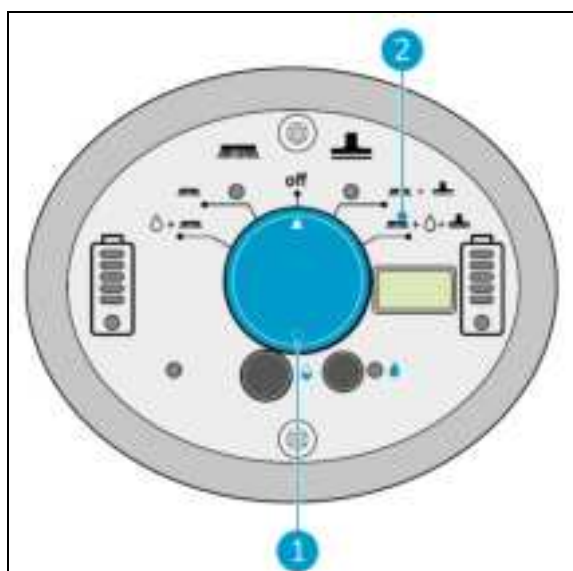

Figure 25
2. Use the i-mop® XL plus main switch (Figure 25, pos 1) and choose MODE 4 Brush + Water/Cleaning solution + Dry vacuum (Figure 25, pos 2).